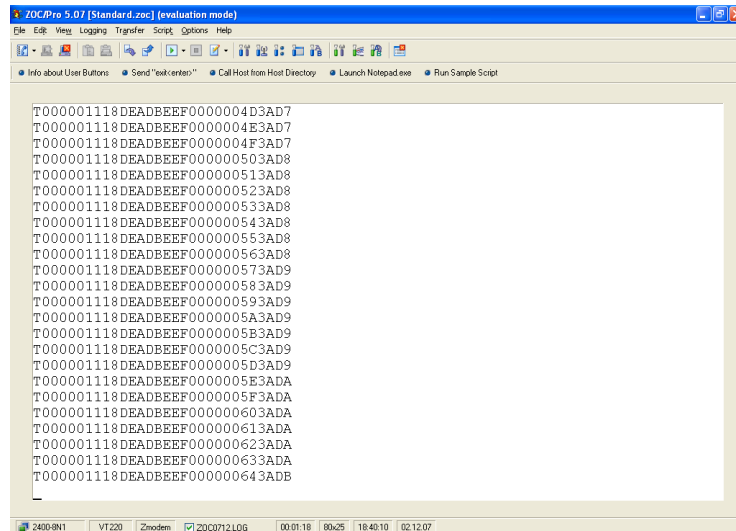

Figure 29: ZOC
**ZOC** (see Figure 29) is a powerful terminal program which has good logging functionality and will also let you make connections over the network (telnet client).